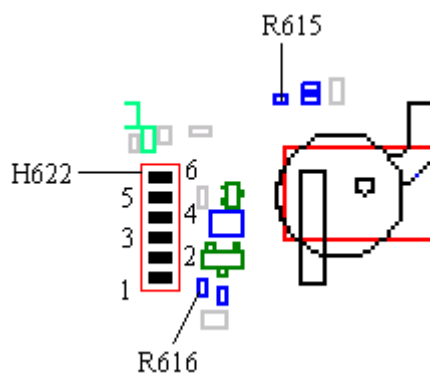

Fig. 5.4
- If the voltages at V608 are correct but there still isn't anything showing in the display, measure the voltages at the display pads (H622, fig. 5.4).